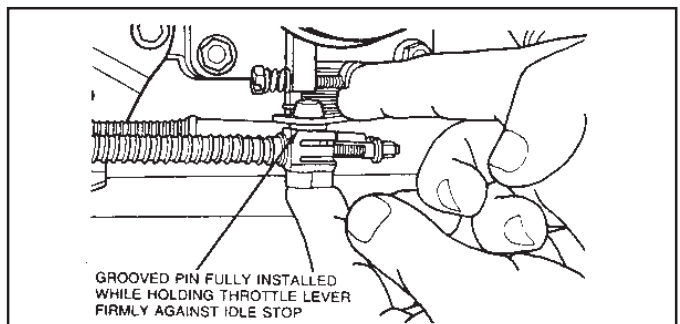

Figure 29
7.13 Insert grooved pin back into grommet. **(See Fig. 29.)**